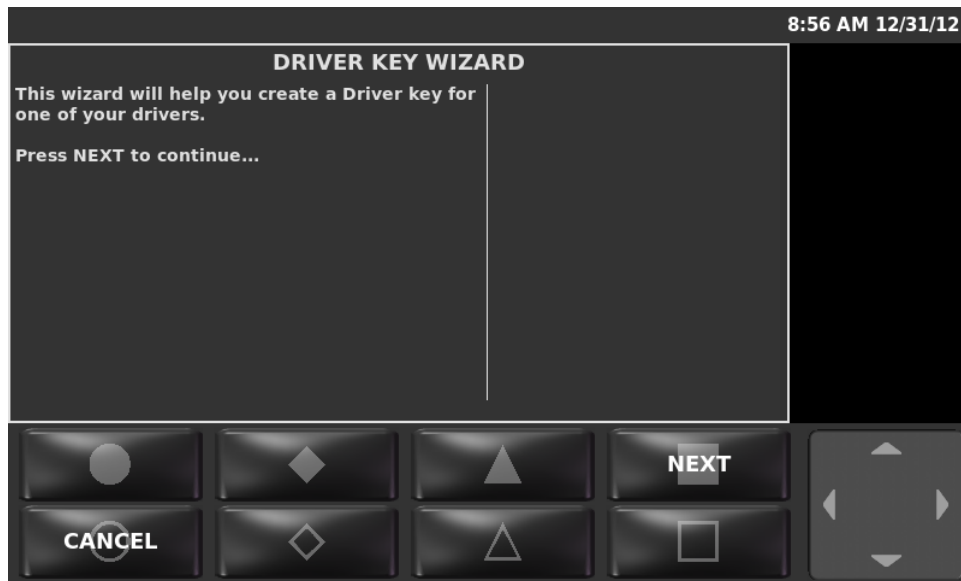

Figure 9: Driver Key Wizard
- STEP 4: The Driver Key wizard will appear, as shown in Figure 9.